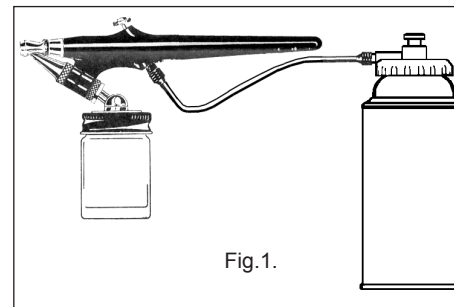

Fig.1.
- 2.1. Fit the jar adaptor with lid (13) into the fluid needle assembly (24) as shown in fig.1.
- 2.6. Ensure the valve is turned fully anti-clockwise before screwing to the top of the propellant can, fig.1.